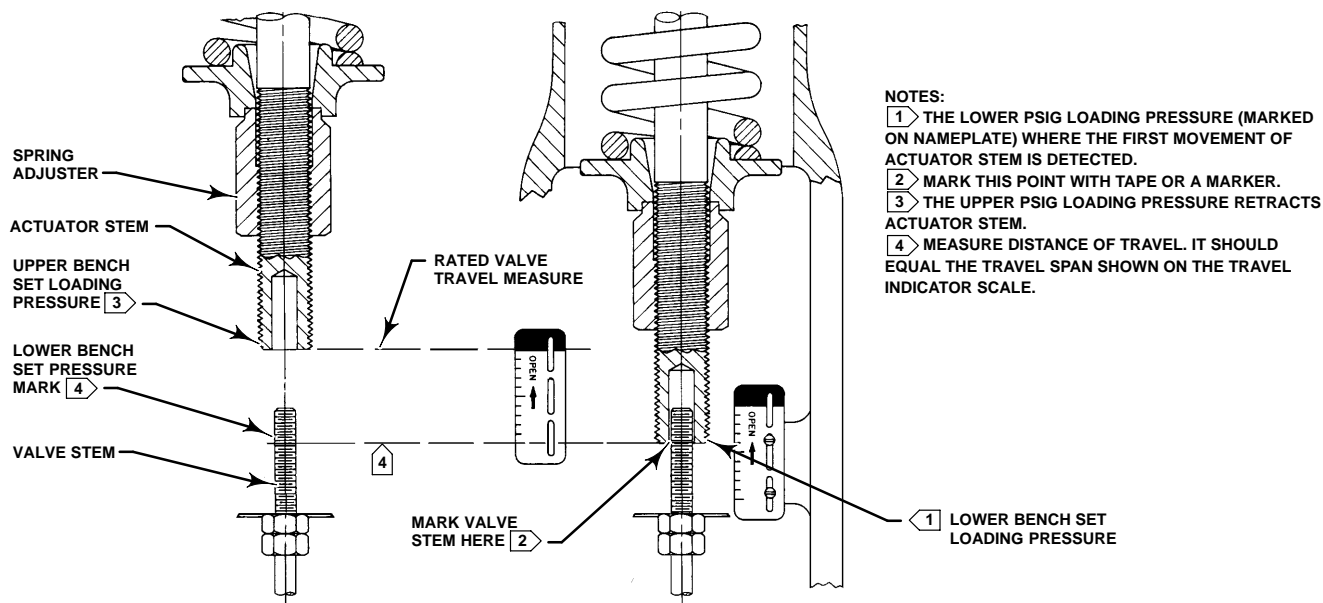

Figure 4. Bench Set Adjustment
2. Screw the stem locknuts all the way onto the valve stem. With the concave side of the travel indicator disk (key 34) facing the valve, install the travel indicator disk on the valve stem. (Note: The travel indicator disk is not used with size 87 actuators.)
a. **For size 87 actuators:** Slowly lower the actuator down onto the valve while guiding the valve stem into the opening in the end of the the actuator stem (see figure 4). Once the actuator is in place, insert the cap screws and tighten the hex nuts, securing the actuator to the bonnet.
- Continue to lower the actuator while guiding the valve stem into the opening in the end of the actuator stem until the actuator is in place (see figure 4).
The term "bench set" means that the actuator is **not** connected to the valve, or any other loads. Ensure that the actuator diaphragm is at the bottom of its travel as shown in figure 4. (Note: Some spring compression is required to move the diaphragm to the **bottom** of its travel.)
4. If movement occurs before or after the upper pressure is reached, adjust the spring adjuster (see figure 4). Thread the adjuster up or down on the actuator stem until the actuator stem movement is **first** detected at the upper bench set pressure. (Note: You may need to lower the loading pressure to reduce spring compression, allowing the spring adjuster to turn.)
8. Measure the distance between the mark or tape to the end of the actuator stem. This distance should match the travel span shown on the travel indicator scale (key 32).
4. If movement occurs before or after the lower pressure is reached, adjust the spring adjuster (see figure 4). Thread the adjuster up or down on the actuator stem until the actuator stem movement is **first** detected at the lower bench set pressure.
7. Measure the distance between the mark or tape to the end of the actuator stem. This distance should match the travel span shown on the travel indicator scale (key 32).